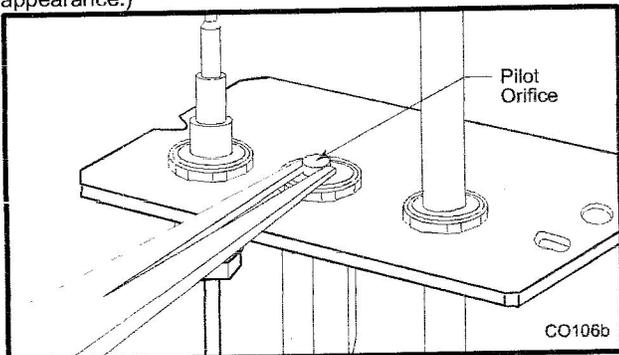

Fig. 54 Remove pilot orifice.
- Remove pilot orifice with needlenose pliers. (Fig. 54)